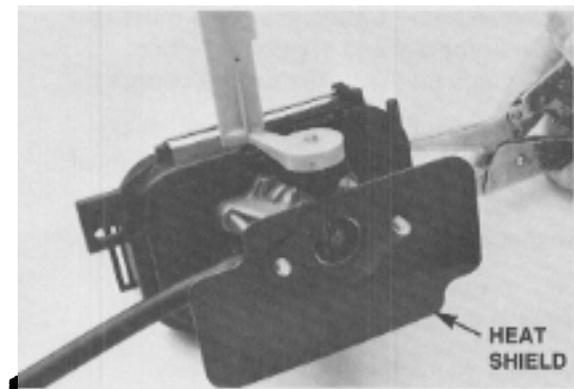

Figure 27
5. Install the heat shield as shown (**Figure 27**).